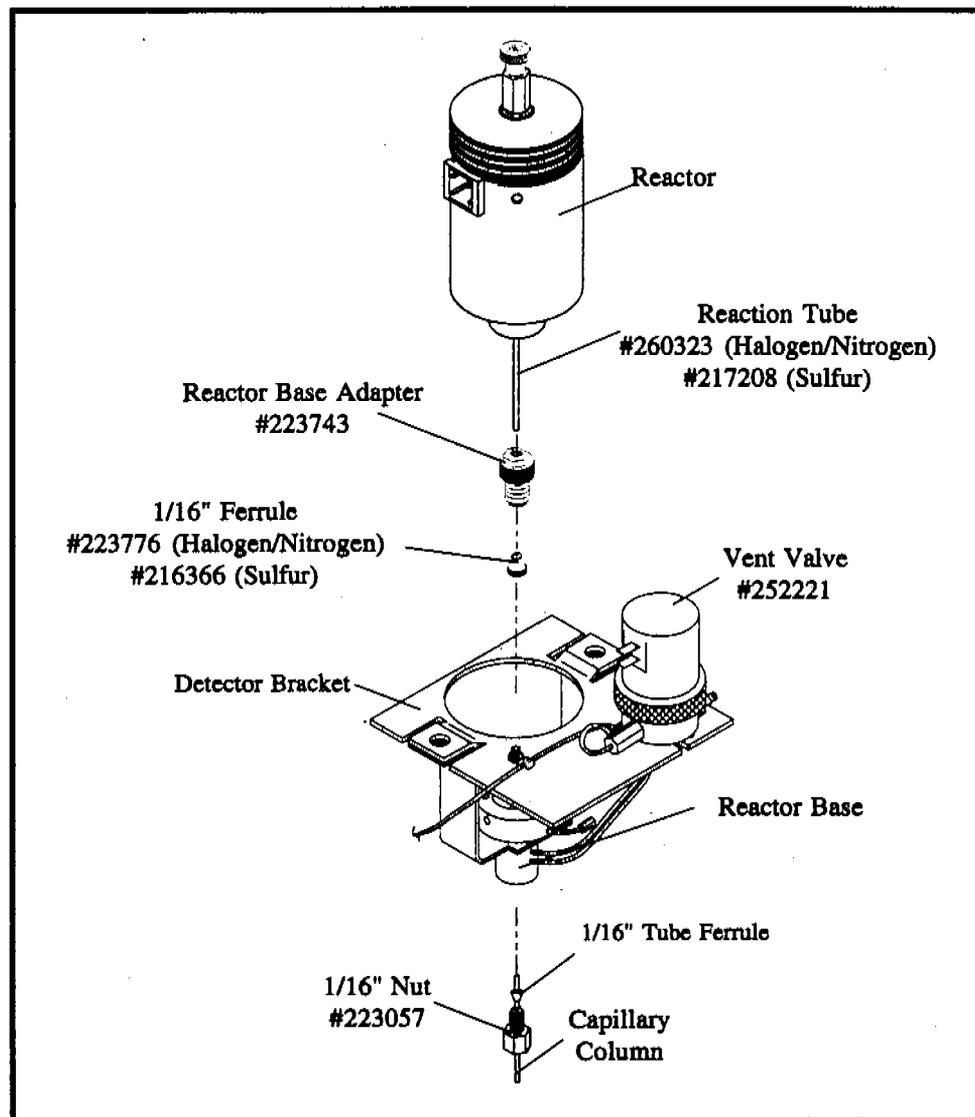

Figure 5.3. Reactor Base Assembly
- Remove the reactor union (Part #234021), GRP/VSP tube ferrule (Part #216366), and reactor top fitting (Part #227462) from the top of the reactor (see Figure 5.3).